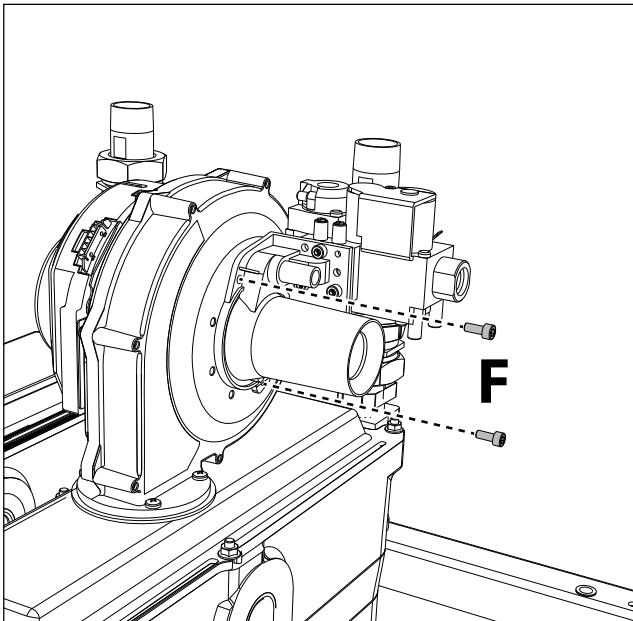
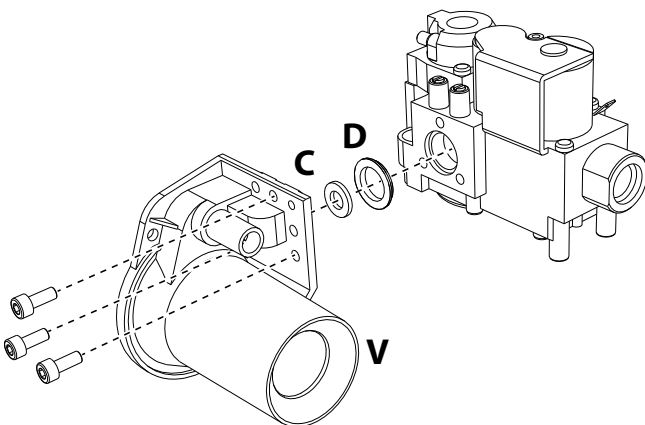

fig. 69
fig. 70
6. Remove the "Venturi Group" from the fan by undoing the two screws "F" (fig. 69).
7. Remove the Venturi "V" by undoing the 3 screws (see fig. 70).
Replace the gas nozzle "C", positioning it inside the gasket "D", with that contained in the conversion kit (see fig. 70). Reassemble the "Venturi Group" and secure it to the fan (see fig. 70 and fig. 69).